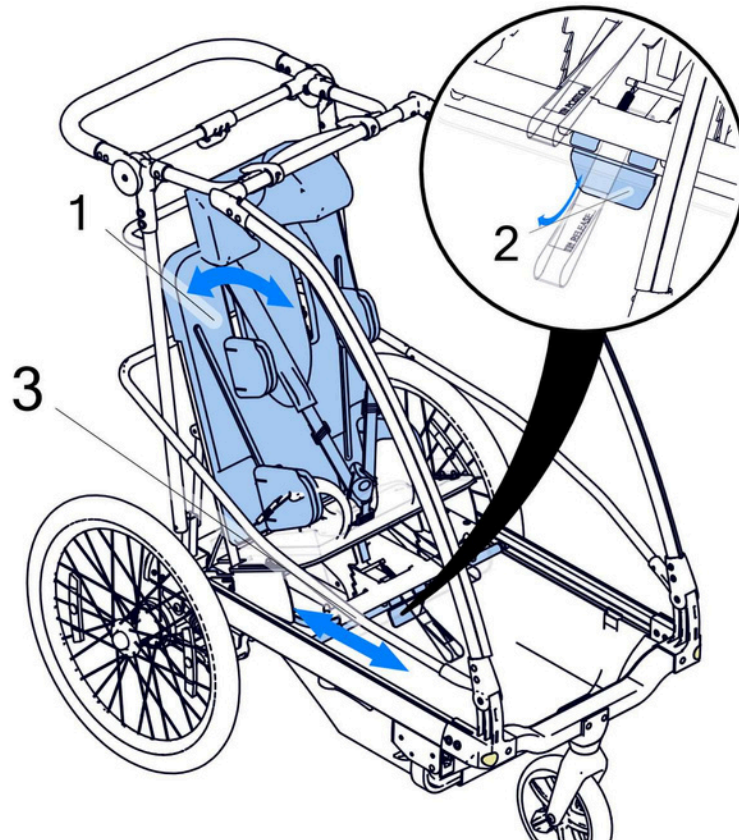

Fig. 15
The backrest (1) can be set in three positions by moving the seat (3) forward or backward. Fig. 15 shows the seat position and backrest angle adjustment. Move the locks (2) toward and move the seat (3) to one of the three available positions. There is possibility to set backrest both sitting and semi reclining positions